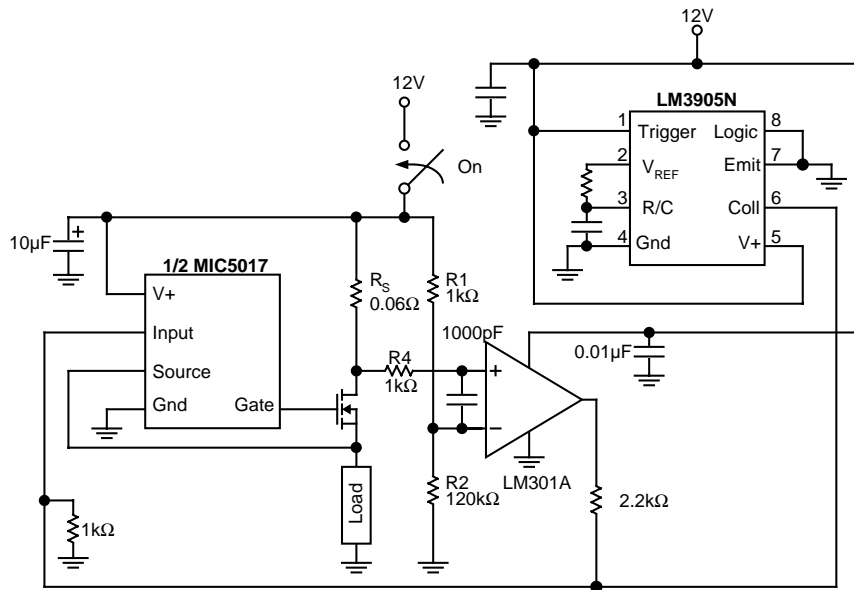

Figure 5. High Side Driver with Delayed Overcurrent Shutdown
**High Side Driver With Delayed Current Sense** (Figure 5) Delay of the overcurrent detection to accommodate high inrush loads such as incandescent or halogen lamps can be accomplished by adding an LM3905 timer as a one shot to provide an open collector pulldown for the comparator output such that the control input of the MIC5017 stays low for a preset amount of time without interference from the current sense circuitry. Note that an MIC5017 must be used in this application (figure 5), as an inverting control input is necessary. The delay time is set by the RC time constant of the external components on pins 3 and 4 of the timer; in this case, 6ms was chosen.
If overcurrent sense is to be used, first measure the duration of the inrush, then use the topology of Figure 5 with the RC of the timer chosen to accommodate the duration with suitable guardbanding.